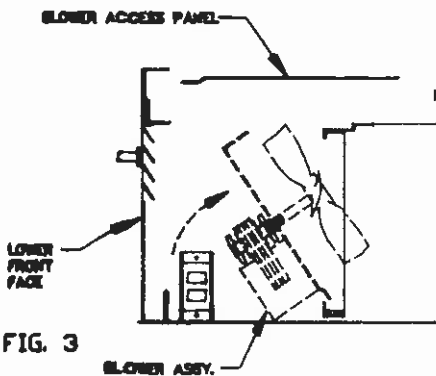
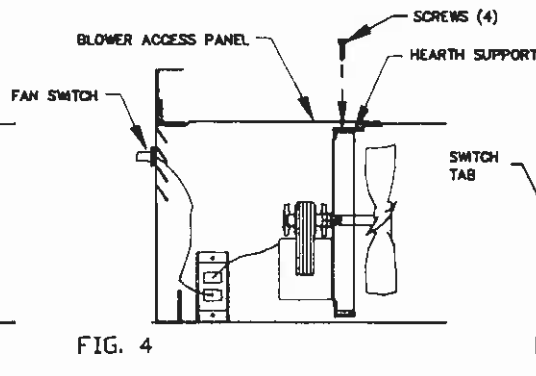

FIG. 3
FIG. 4
- 5) Install the new blower assembly and secure with 4 screws. (SEE FIG. 3 and FIG. 4)
- 8) Plug the switch and the blower electrical cord into the receptical in the fireplace. (SEE FIG. 4)